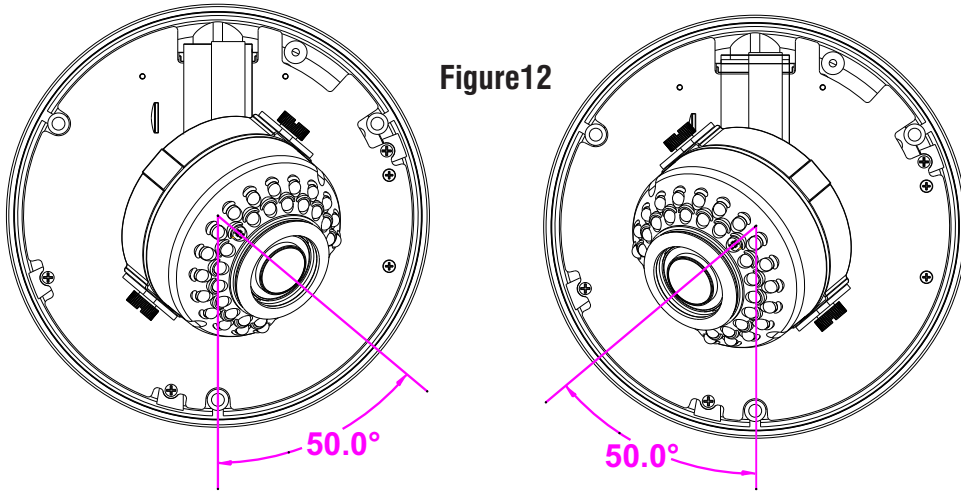

Figure12
- For **PAN movement** you can move the camera to 100 degrees on one side. see **Figure:12**. To capture other side view, you have to open the camera body from the mounting ring, turn the body and mount to other side.